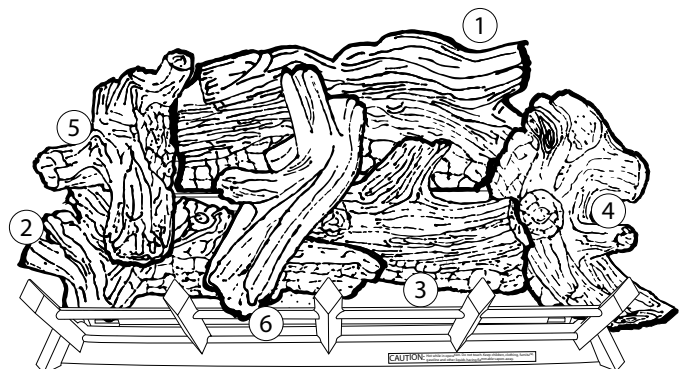

Figure 54.
6. Place the top center log (#6) to the right of the pilot orifice allowing the log to rest on top of the front right log (#3) and the front left log (#2). (See Figure 54.)